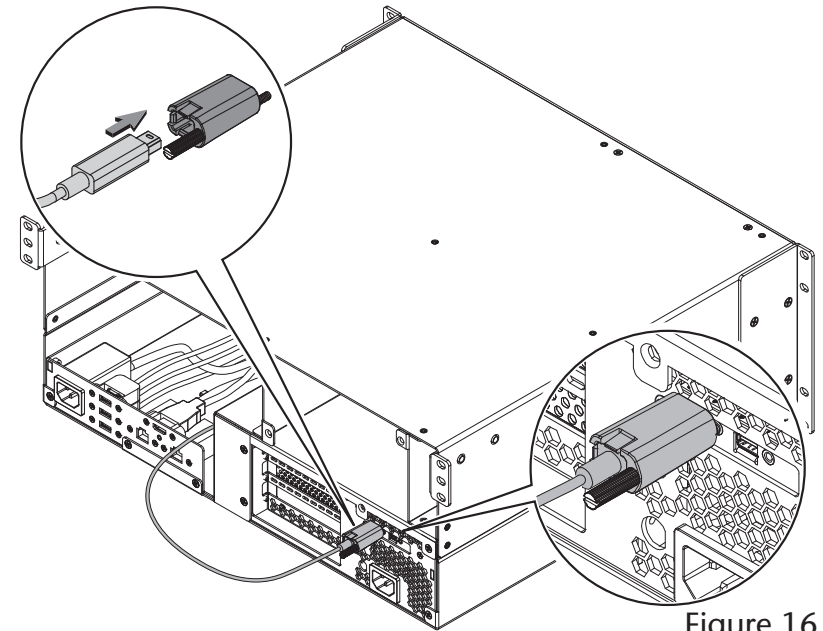

Figure 16
To attach the clip to the cable, remove them from their packaging, and then insert the connector into the connector clip as shown (Figure 16). Note that the connector will pass all the way through the clip; when you connect the cable to the chassis, the clip will secure the cable.
5. Plug in the included Thunderbolt cable to either Thunderbolt port on the PCIe card expansion module (Figure 16). Secure the retainer clip to the expansion module if you attached it.